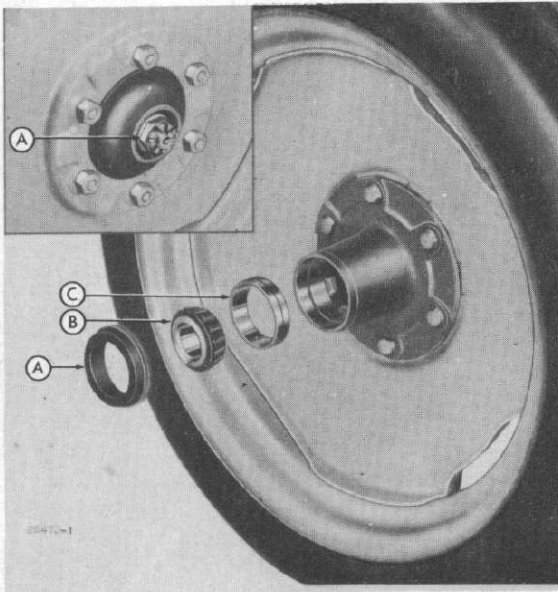

Fig. 9
- Step 2—Remove the cotter pin and the wheel adjusting nut (A-Insert Figure 9)..
Step 5—Drive the dust seal (A-Figure 9), rear bearing (B-Figure 9) and the bearing cup (C-Figure 9) out of the hub.